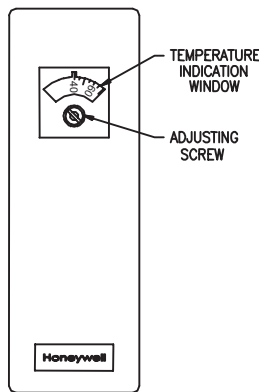

FIGURE 9.1: TEMPERATURE CONTROL
- a) Using a small flat screwdriver rotate the adjusting screw shown in Figure 9.1 until the desired temperature setting on the dial is aligned with the notch in the temperature indication window.